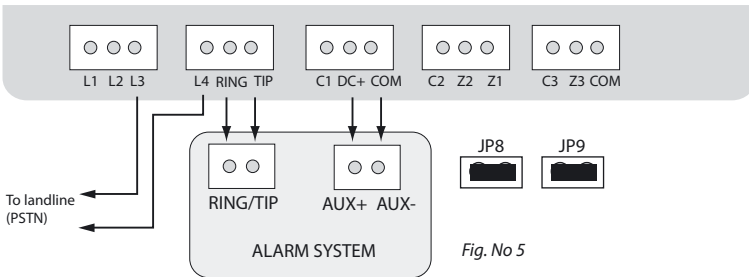

Fig. No 5
1. Connect the circuit as indicated in Fig. No. 5 – connect telephone contacts of the alarm system **RING/TIP** to **RING/TIP** contacts of communicator.